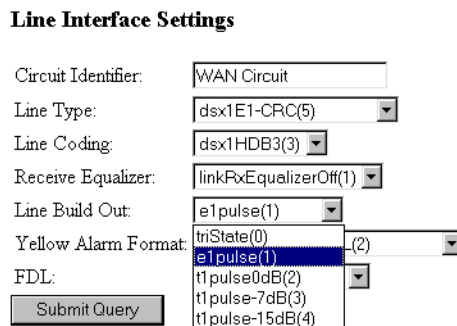

Figure 41. Line Build Out pull-down menu with e1pulse(1) selected
- From the *Line Build Out* pull-down menu (see figure 41) select *e1pulse(1)*.